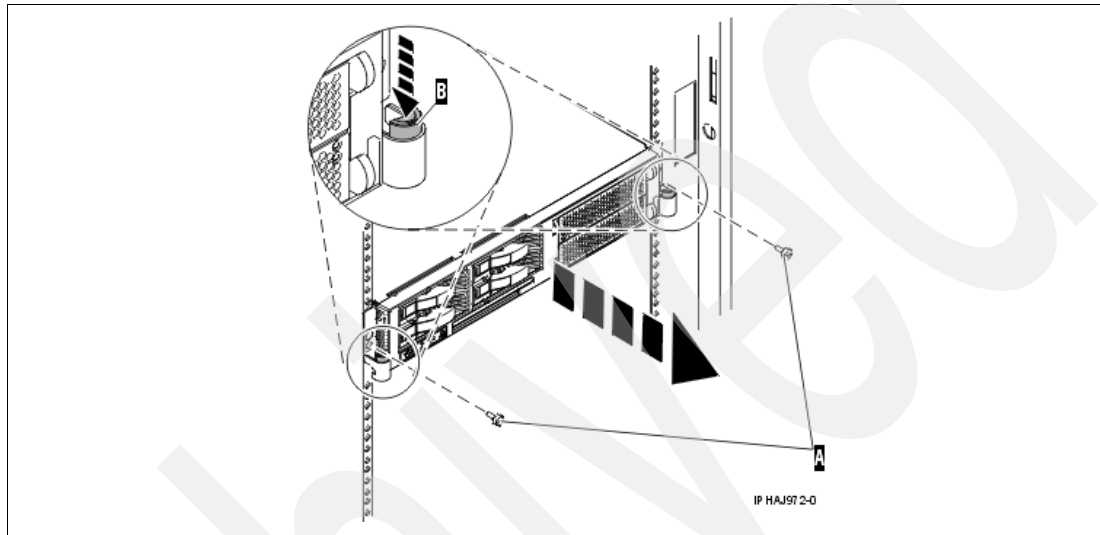

Figure 2-9 OpenPower 710 server service position
- ▶ Remove the two thumbscrews (A) that secure the system unit to the rack, as shown in Figure 2-9.
- ▶ Release the rack latches (B) on both the left and right sides, as shown in Figure 2-9.